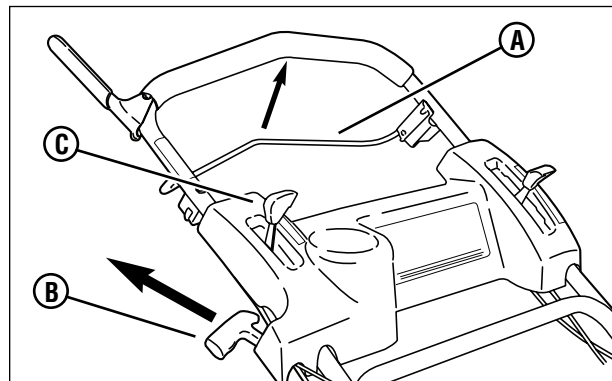

Figure 3: Starting the mower
1. Move the engine speed control (**C, Figure 3**) past the fast ('Rabbit') detent to the 'Choke' position.
2. Pull the blade control (**A, Figure 3**) against the handle.